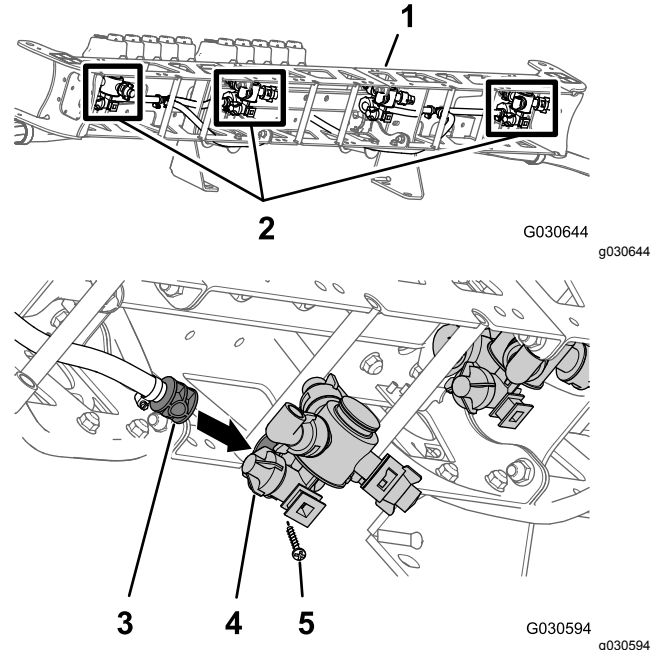
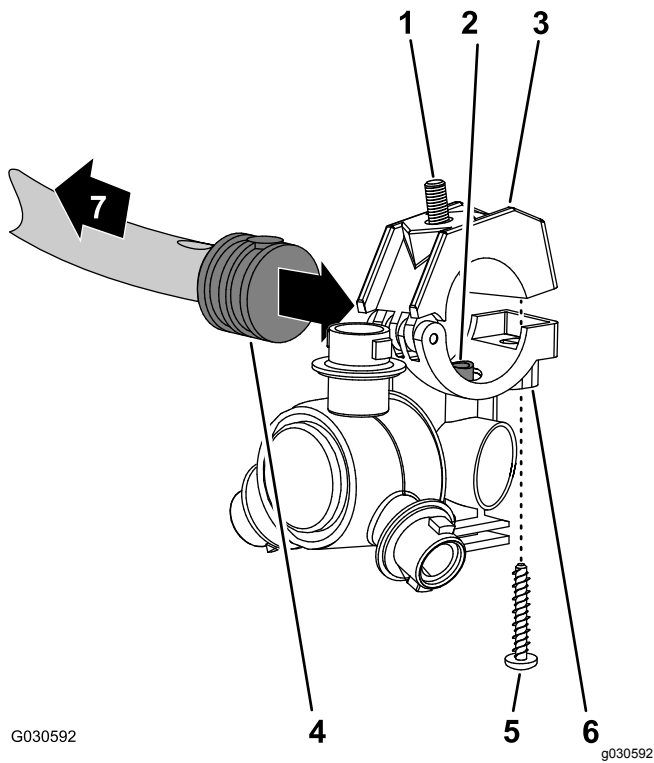

Figure 120
Figure 121
3. At the center boom section, align the transfer tube in the saddle of a sprayer nozzle (Figure 120 and Figure 121) with the hole in the side of the single barbed-hose shank (1/2 inch).
4. Close the upper clamp half around the barbed-hose shank and secure the clamp half and spray-nozzle body (Figure 121) with the stainless steel screw (#12 x 1-1/4 inches).